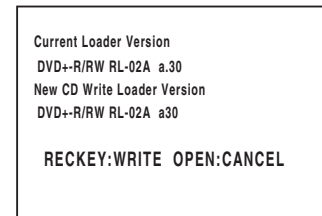

Fig. 3-1-9
- 3) Press the REC ● button on this DVD recorder three times: The data on disc will be read, the Firmware Update screen will appear, and the drive firmware version along with the version of drive firmware on the disc, will appear on the screen (Fig. 3-1-9).